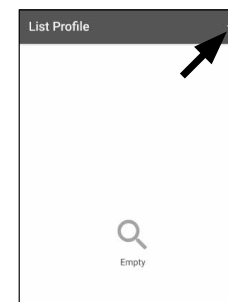

Fig. 9
- Add a new cylinder by tapping on the "+" in the top right-hand corner (Fig. 9).